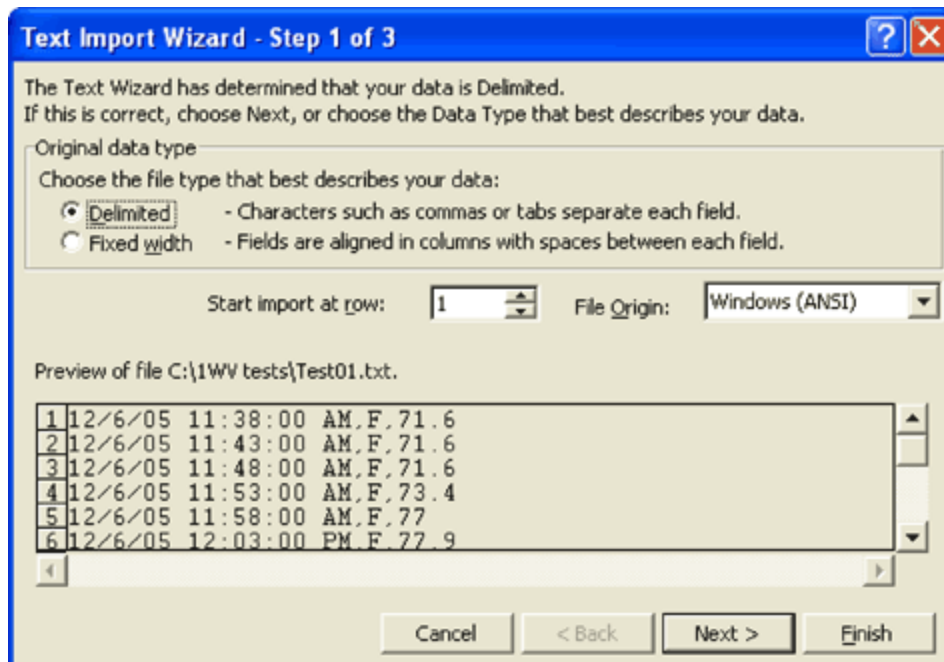

Figure 4. The Text Import Wizard asks you to indicate that your text data is a delimited file before you can proceed.
14. Select your text file, and select the "Open" button. The Text Import Wizard will appear (Figure 4).